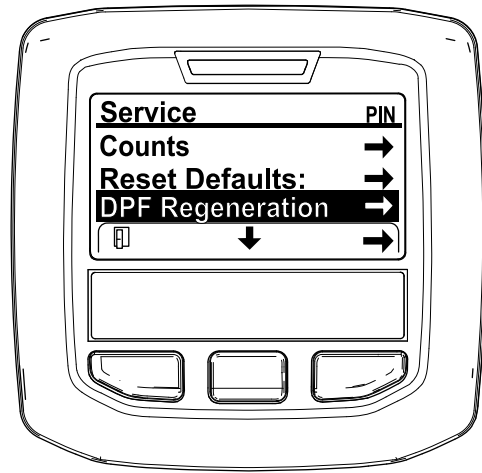

Figure 43
3. In the SERVICE MENU, press the middle button until the DPF REGENERATION options displays, and press the right button to select the DPF REGENERATION option (Figure 43).